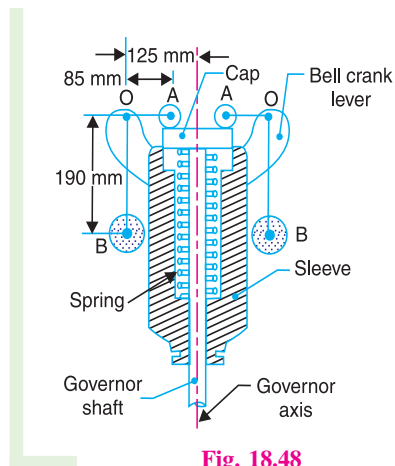

Fig. 18.48
**Example 18.32.** A spring controlled governor is shown in Fig. 18.48. The central spindle does not move axially. The mass of the sleeve is 20 kg and the frictional resistance to its movement is equivalent to 20 N. The balls attached to the right angled bell crank levers have mass 4 kg each. The stiffness of the spring is 40 N/mm compression. The radius of rotation of the balls is 125 mm when the sleeve is in its lowest position, and the ball arms are vertical and the spring exerts a force of 600 N. Determine :